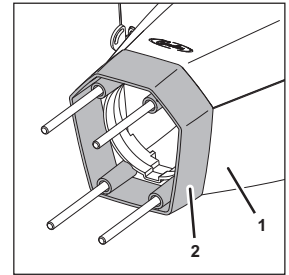

Fig. 10
- Position the stand booster (Fig. 10/2) on the stand (Fig. 10/1) of the unit.